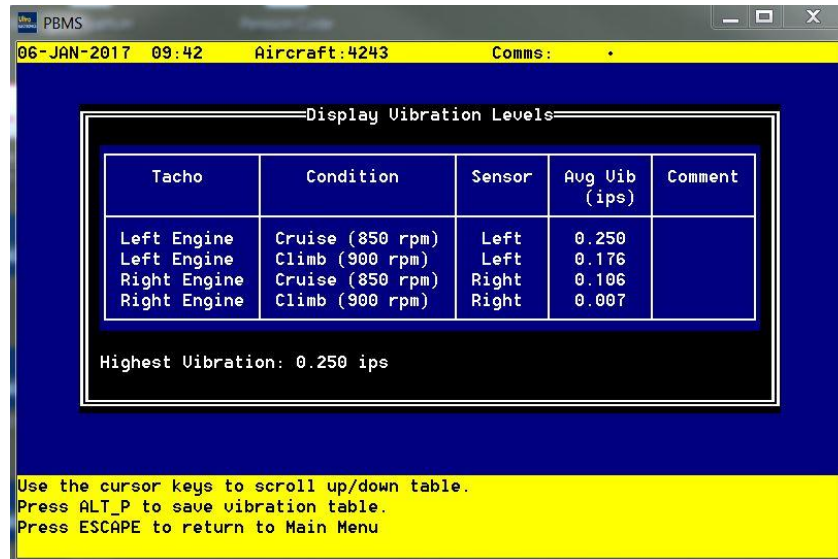

Figure 3-2 'Display Vibration Levels' Screen
- (5) The 'Display Vibration Levels' screen (Refer to Figure 3-2) shows the average vibration level for each PBMS Sensor on each engine for each flight condition. Use the cursor keys to scroll up and down the table if required. The maximum vibration level is also shown